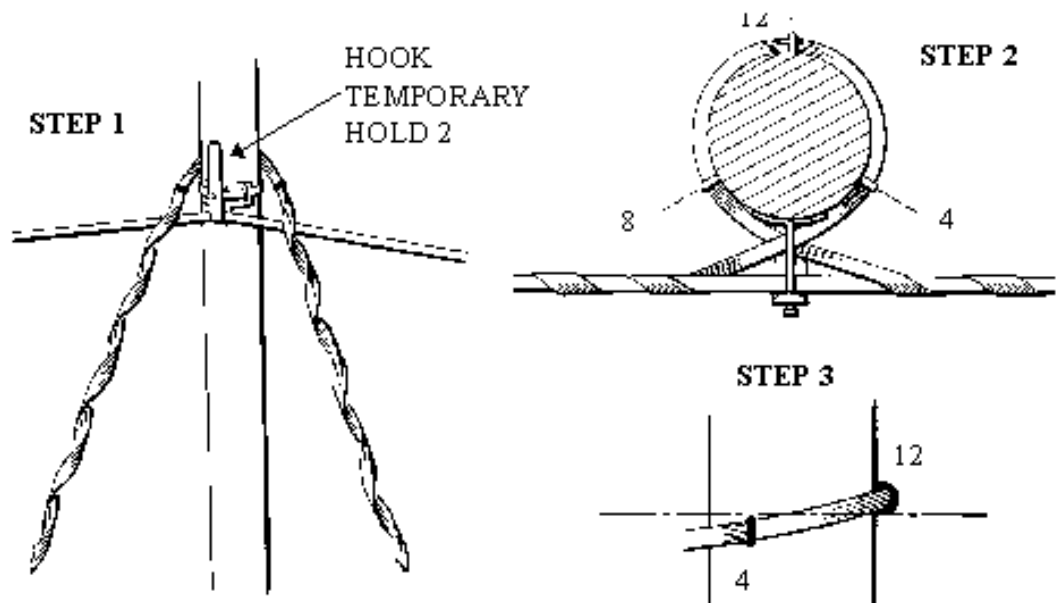

Figure 15: Installation of single Clamp Aerial Cable
- The two legs of the Clamp should cross the pole as shown in Figure 15 below